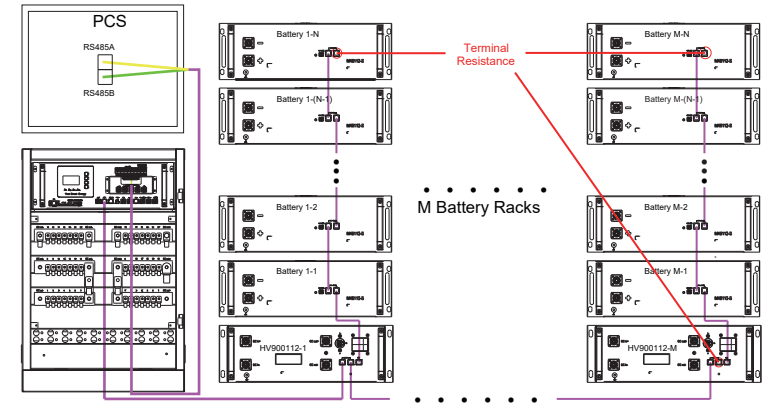

Figure 4-11 Battery side communication cables connection
- C.** Connect the bottom battery (COM Port) to HV900112 (LMU Port) by using the communication cables from HV900112 parts list. Please see Figure 4-11
- D.** Connect HV900112 (COM Port) to TOP BMU box (COM Port, Port 1 or 2) by using the communication cable from TOP BMU part list. Please see Figure 4-11.